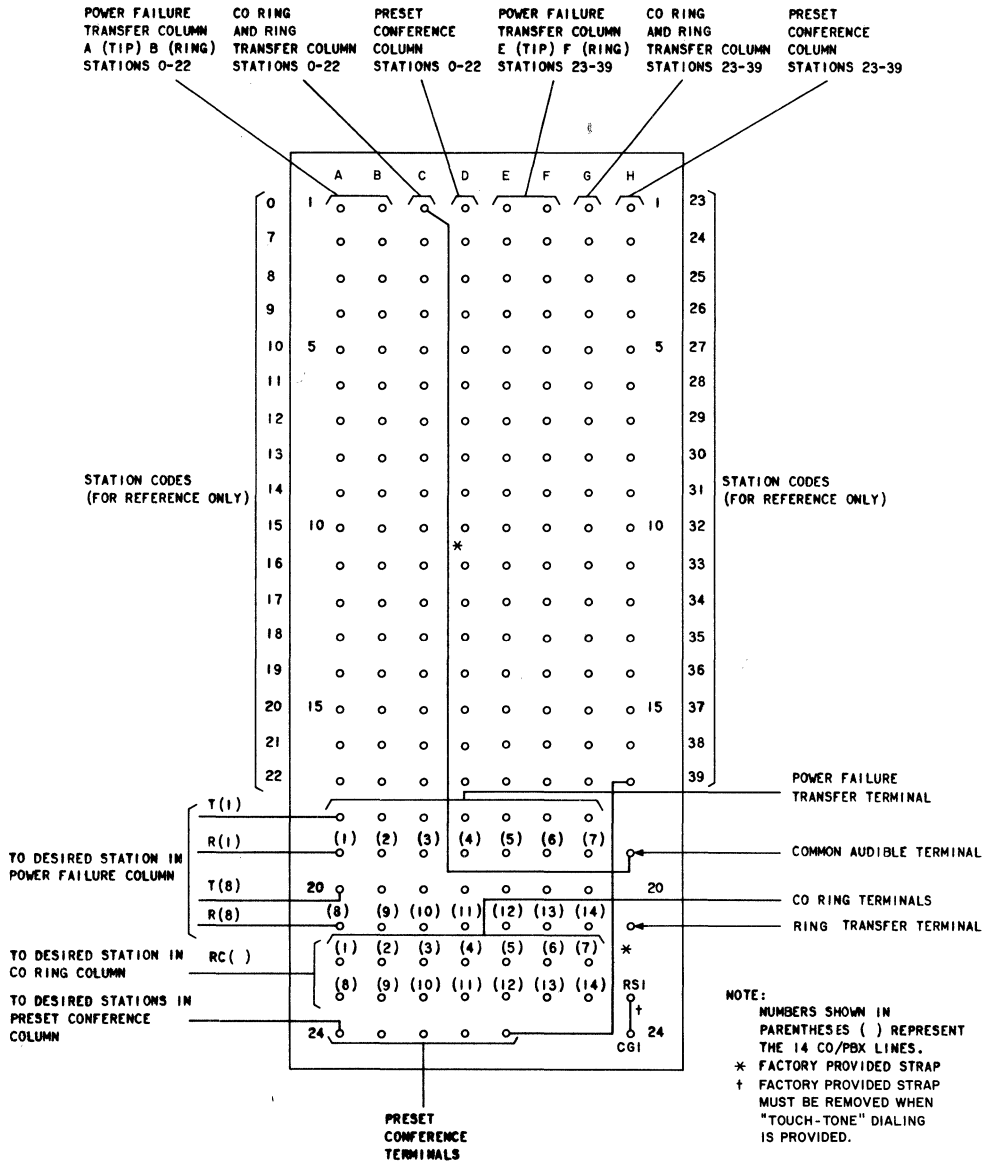

Fig. 4—Terminal Arrangement for Connecting Block 14
- (a) Connecting block 1 (Fig. 4) provides the terminals on which option straps are placed for connecting power failure ringing, CO ringing, preset conference, and ring transfer.